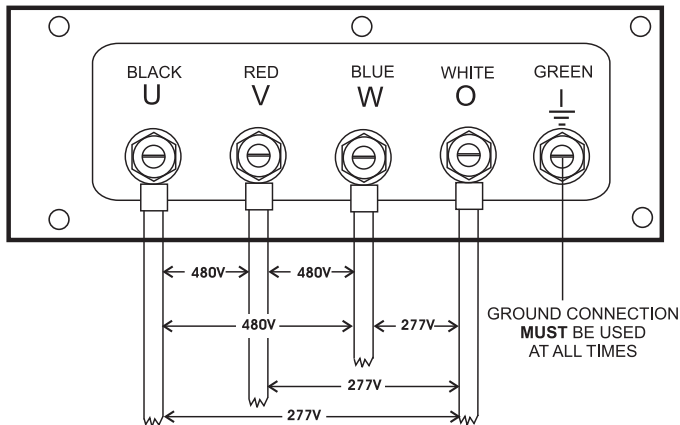

Figure 28. UVW Terminal Lugs 480/277V Three Phase Connections
2. Connect the load wires to the **Output Terminal Lugs** as shown in Figure 28.